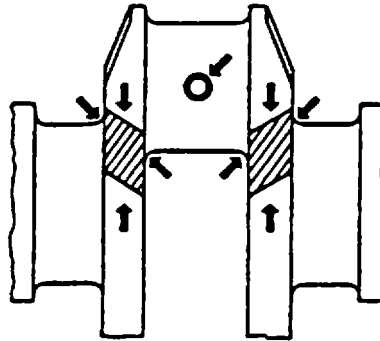

FIGURE 3-138. Critical Areas of Crankshaft Load Stress
- (1) Clean crankshaft using solvent and compressed air.
- (2) Inspect oil passages to make sure they are open. Use compressed air and a small piece of wire.
- (3) Inspect crankshaft for any signs of load stress, cracks, scoring, or scratches on journals. (An inspection must be made if the crankshaft damper was found to be damaged or defective.) FIGURE 3-138 shows critical areas of load stress in a crankshaft.